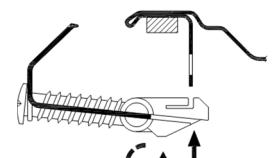

Fig 2.
9. Push the fixing clips perpendicular to the clip rail or lugs onto the underside of the sink rim (fig. 2). Whilst pushing the fixing clip to the rail rotate the fixing clip to attach it to the notches on the clip rail (fig 2).